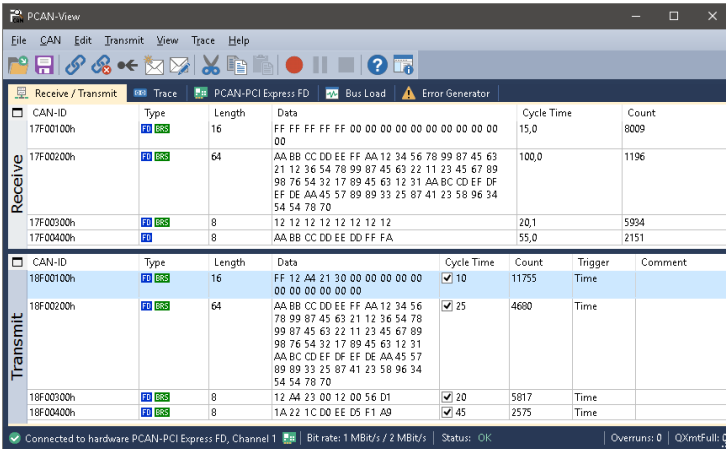

Figure 14: Receive/Transmit Tab
9. Confirm the settings in the dialog box with **OK**. The main window of PCAN-View appears (see Figure 14).